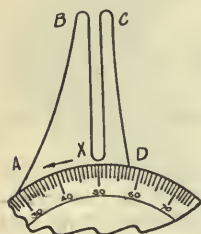

FIG. 2
The curves in the two graphs shown in Figs. 2 and 3 are somewhat exaggerated to make it easier to understand the action of the neutralizer.
**B**Y ROTATING the dial (Fig. 2) in the direction of the arrow, we find a quiet spot X at the reading 50 and extending one or two degrees either side of it. By continuing slowly to rotate the dial, we immediately reach the full squeal intensity indicated at B. As the dial continues to rotate, the squeal intensity gradually decreases to A. On the other
Obviously, if your receiver produces squeals similar to those indicated in Figs. 2 or 3, the condenser tubing must be shifted until each section on either side of the quiet spot (indicated in the graph,) is equal and balanced.
Showing the other extreme of unbalanced neutralization. The correct "squeal curve" will result from a neutralizer condenser setting equal to the average of the settings in Figs. 2 and 3